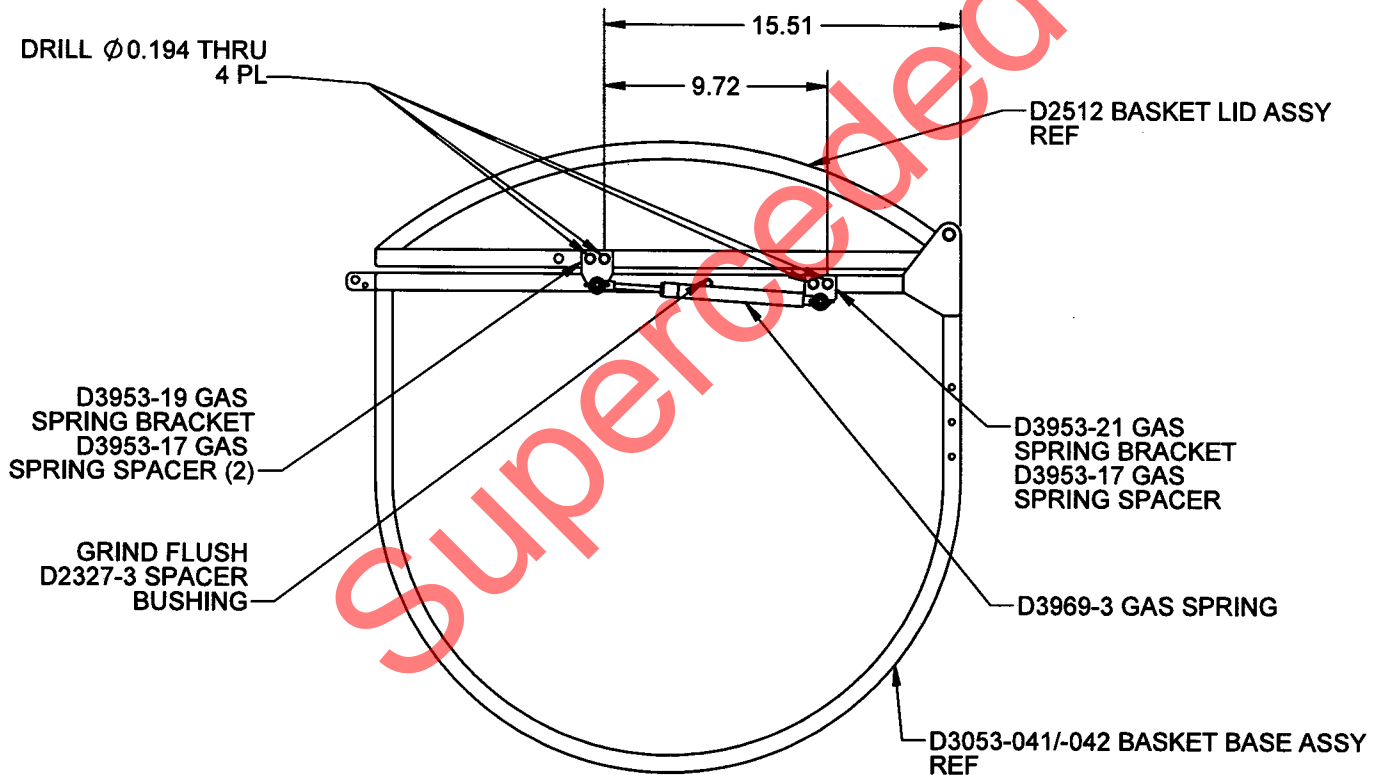
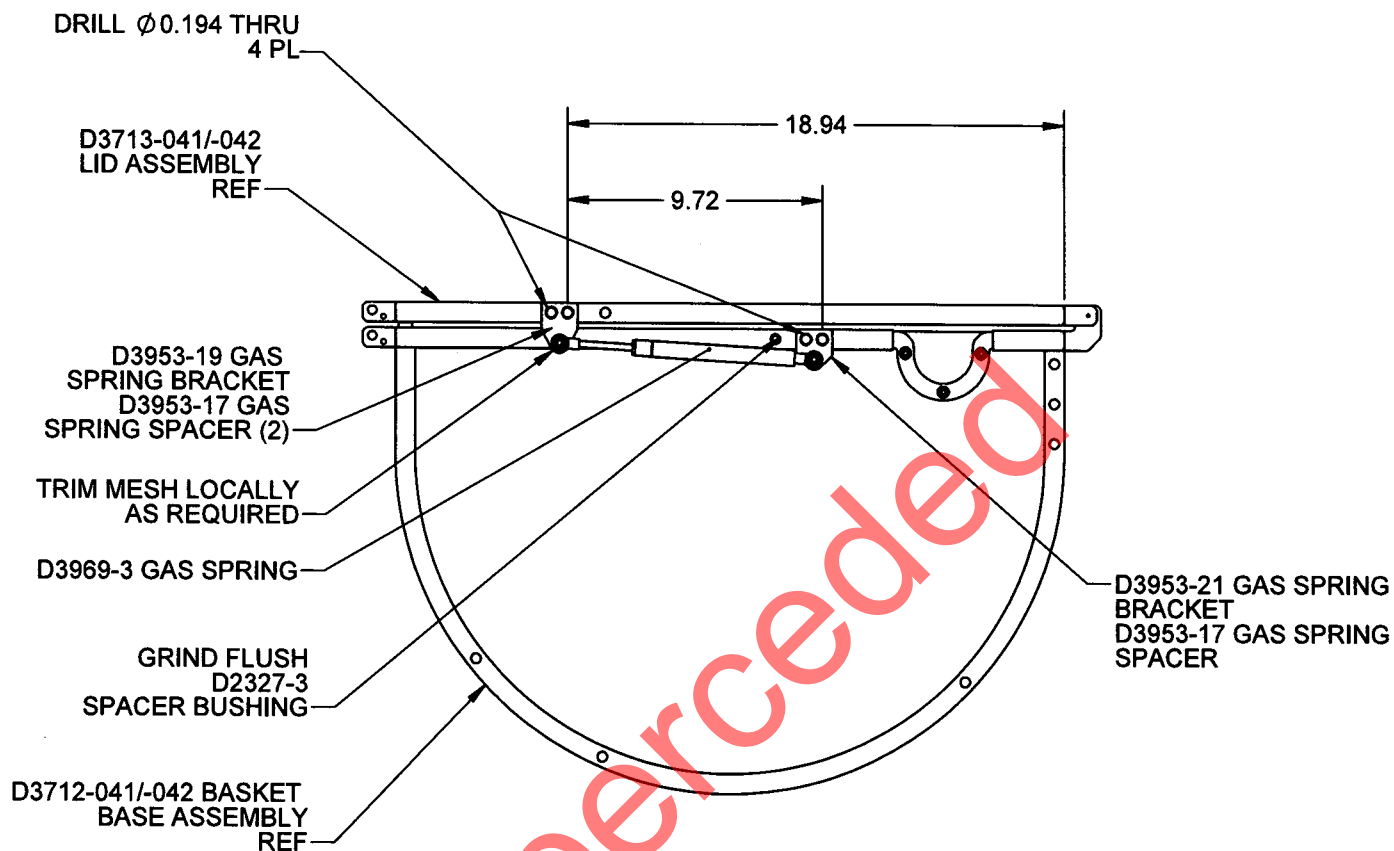

FIGURE 1: D205-541-051 AUTOMATIC LID OPENER INSTALLATION
FIGURE 2: D205-541-051 AUTOMATIC LID OPENER INSTALLATION
- 3.3 Locate the D3953-17 Gas Spring Spacer on the basket lid per Figure 1 (-043/-044) or Figure 2 (-045/-046). Trim steel mesh locally as required. Transfer mark and drill 2X Ø0.194 holes thru basket lid. Touch up paint per ICA-D205-541, Section 5.1.5. (Later model D2512 Basket Lids may be pre-drilled for gas spring brackets)
- 3.5 Locate the D3953-17 Gas Spring Spacer on the basket base as shown in Figure 1 (-043/-044) or Figure 2 (-045/-046). Trim steel mesh locally as required. Transfer mark and drill 2X Ø0.194 holes thru the basket base. Touch up paint per ICA-D205-541, Section 5.1.5.